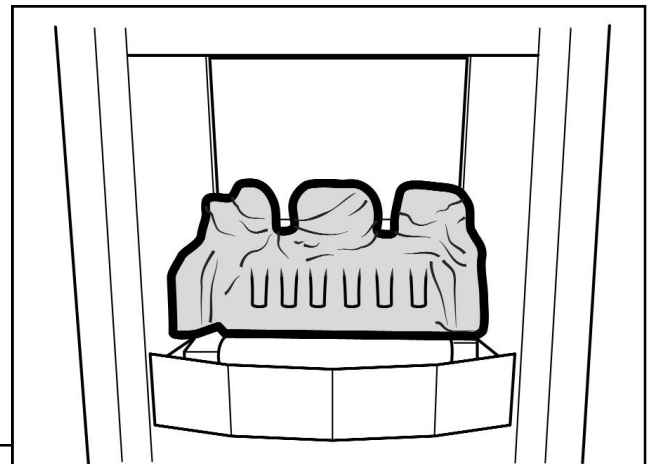

Figure 29. Rear Base Coal Position
1. Place the rear base coal in the firebox. It should rest on the ledges at the rear sides of the burner unit. When located gently move the rear base coal so that it is as far forward as possible. The amount of movement will be negligible (See figure 29).